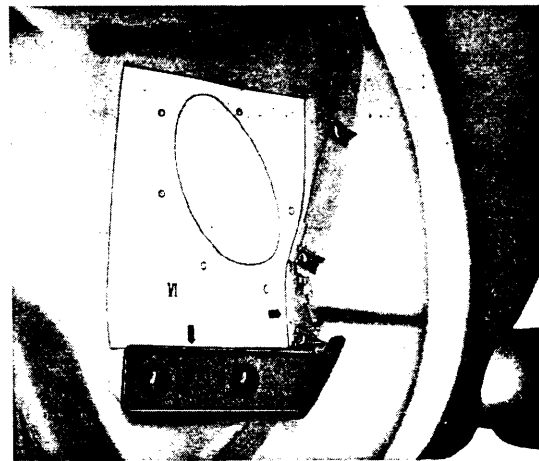

Fig. 4
- 6 - Cut a hole in each wheel housing in the oval depression so that a 5 mm wide border is left (see drawing). Place templates V and VI in position and mark off and drill 6 mm flange screw holes. Clean up and straighten edges (Fig. 4).